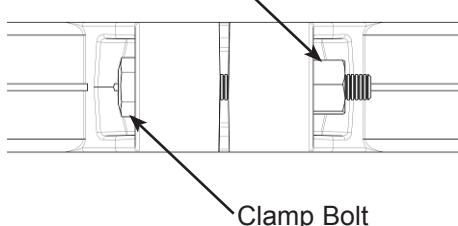

Figure 1
4. Never rely on hand tightening of clamp nut to clamp bolt. Using a $\frac{3}{4}$ inch socket on a torque wrench, torque clamp nut to clamp bolt to 17 Nm (150 inch-lbs). (Fig 1).